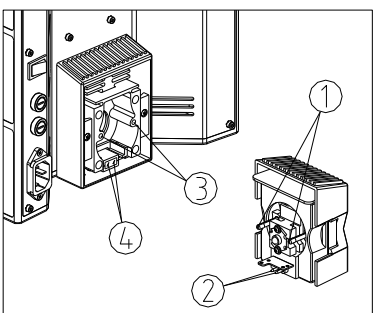

Fig. 6
Match the guide pins (1) and power supply pins (2) of light source group with the guide receptacles (3) and power socket (4) of base, and push the light source group into the base thoroughly. (See Fig. 6)